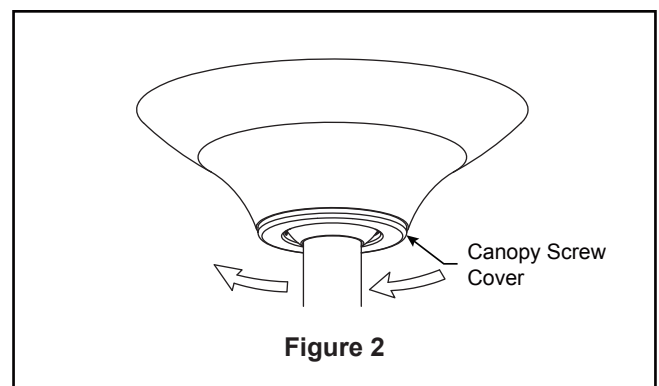

Figure 2
- ☐ 2. Securely attach and tighten the canopy screw cover over the shoulder screws in the hanger bracket utilizing the key slot twist-lock feature. (Figure 2)
- ☐ 2. Position the trim cover onto the blade plate assembly bottom. (Figure 2)